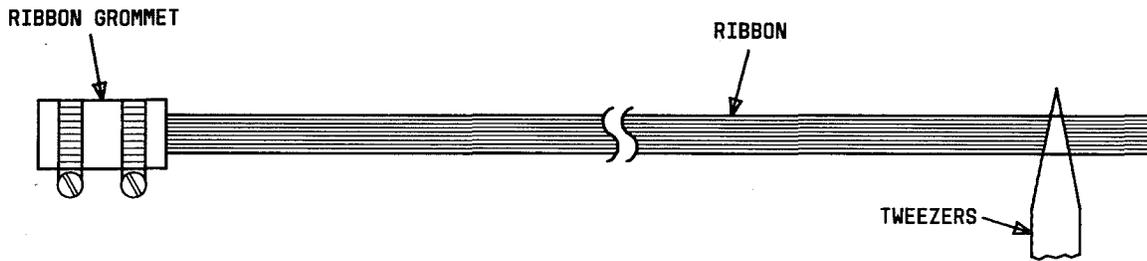

Fig. 71—Separating Mylar Tapes
8.18 Details for accessing all fibers in a ribbon unit are shown in Fig. 71 through 73.